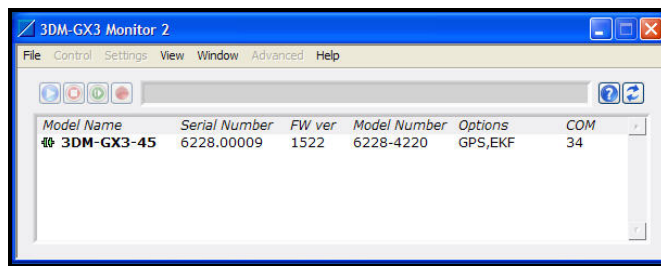

Figure 1. Main window
- The software will automatically search for the 3DM-GX3[®] -45 and display it in the Device pane. The serial number, firmware version, model number, options and comm port will be displayed as shown in Figure 1.